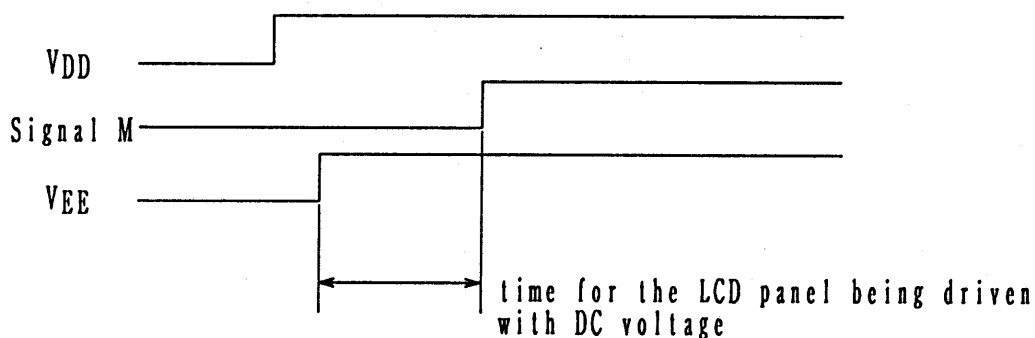
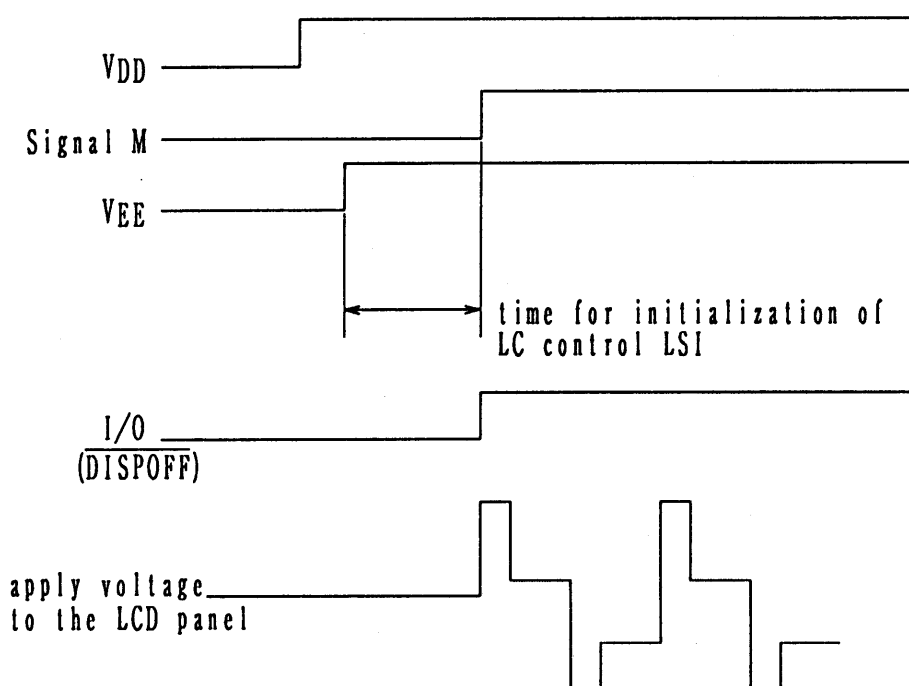

Fig. 3 Time for the LCD panel being driven with DC voltage
Fig. 5 Timing chart without DC apply to the LCD panel
At power on, if LC driving power supply voltage (V_{EE}) is applied before LCD panel AC driving signal(M) is input to LC module, the LCD panel is driven with DC voltage in the meantime. (Refer to Fig. 3)
(Refer to Fig. 3) During this time, switch I/O port(DISPOFF) to 'L' and force apply voltage to the LCD panel into 0V. After initialization of LC control LSI, switch I/O port(DISPOFF) to 'H', so that the LCD panel is returned to the normal driving voltage. (Refer to Fig. 5)